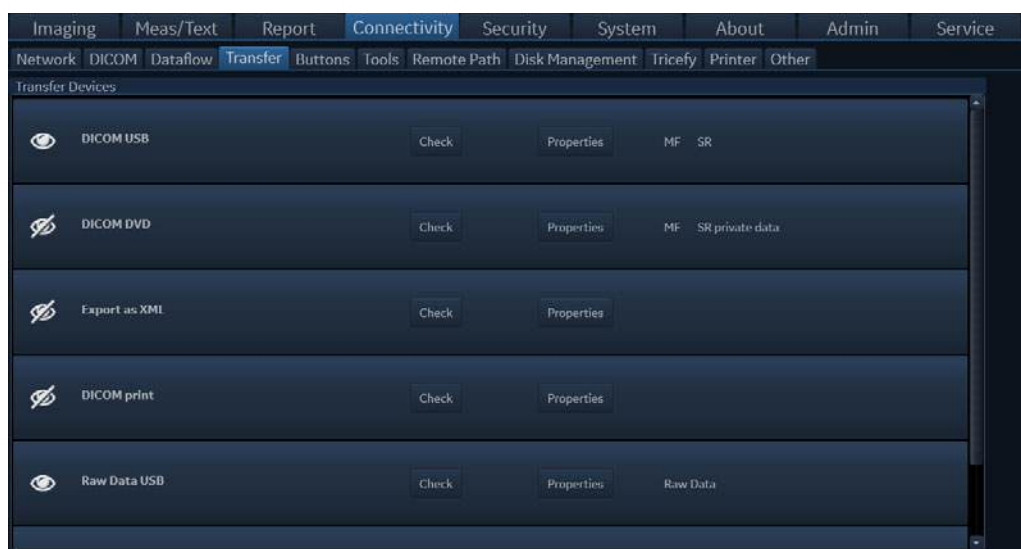

Figure 12-79. The Transfer sheet (Export to XML)
2. Select the **Connectivity** category and **Transfer** subgroup. The *Transfer* sheet is displayed (Figure 12-79).